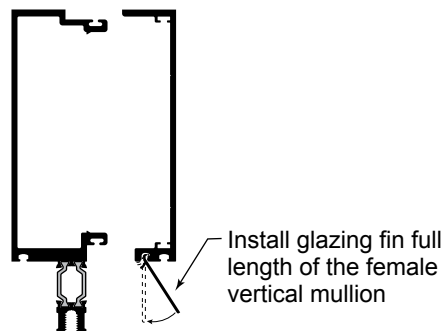

Fig. 35.2
- C. Install glazing fin (E111TU, dual glaze; E131TU triple glaze) full length of the female vertical mullion. Crimp in place as required. See **Fig. 35.2**.